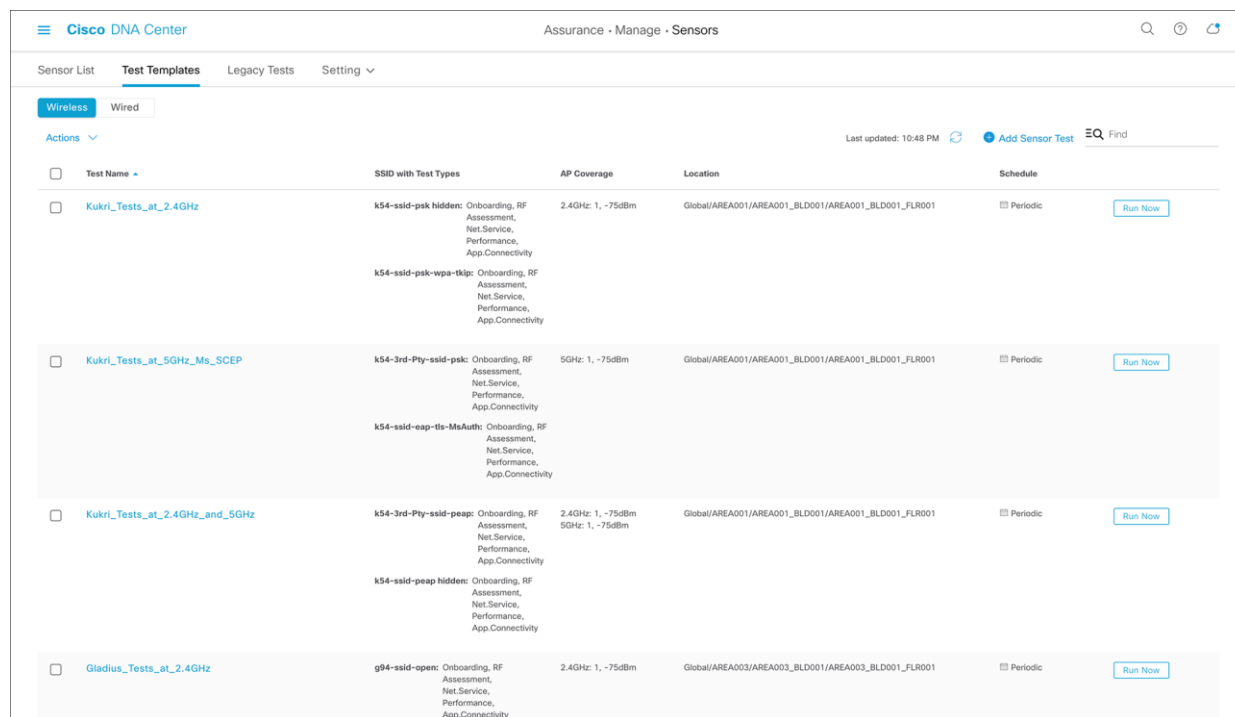

Figure 64.
1. To create a test suite, from the hamburger menu choose Assurance > Manage > Sensors, and then click Test Templates and Add Sensor Test (**Figure 64**).